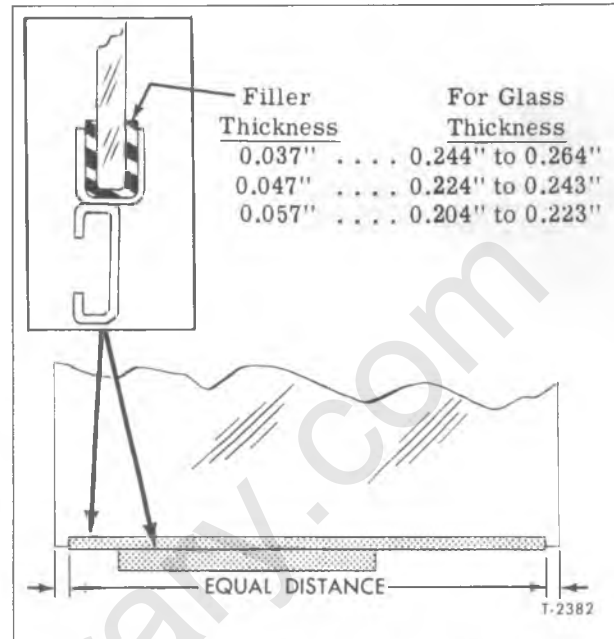

Figure 24—Door Window Glass Assembly
**IMPORTANT:** Make sure channel ends are equal distance from edge of glass (fig. 24) and that regulator arm slot in channel, is facing the right direction in respect to rounded and squared corners at upper edge of glass. Trim off excess filler material along channel and at ends.